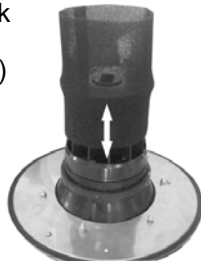

Fig. 16
- Place the foam filter over the filter holder. (Fig. 16)